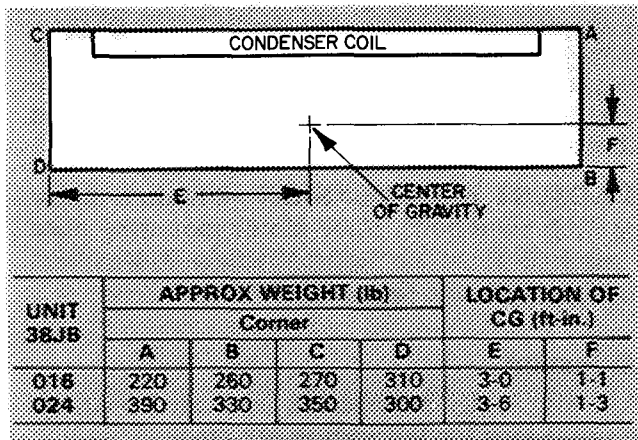

Fig. 2 — Weight Distribution
**FLOORS AND FLOOR JOISTS** of existing buildings may require reinforcement. Follow applicable codes requiring weight distribution. Refer to Table 1, Fig. 1 and Fig. 2.